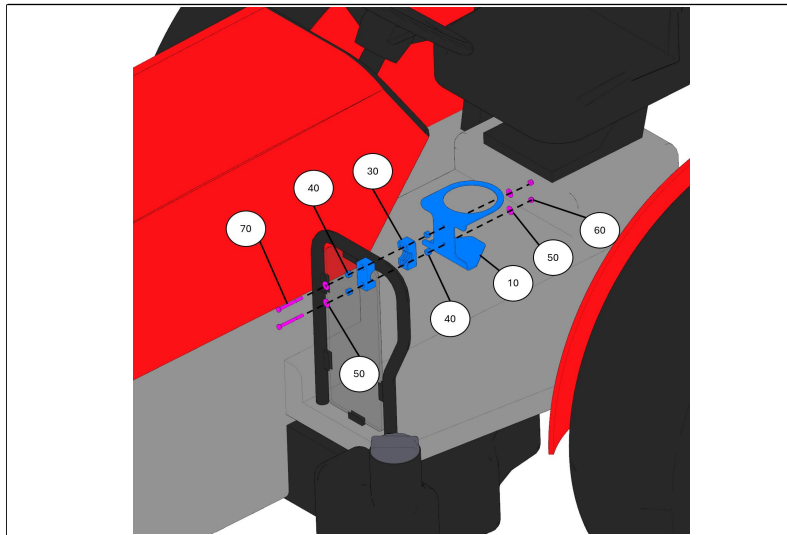

Fig. 1
1. Install cup holder on horizontal tube as shown. See figure 1.